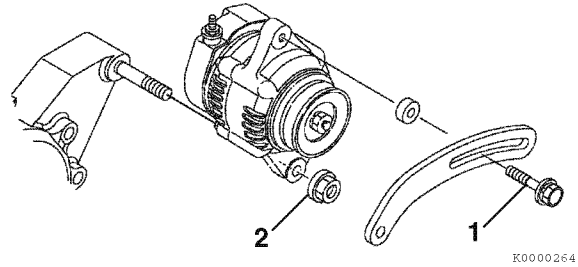

Figure 11-19
1. Position the alternator on the gear case. Loosely reinstall the nut (Figure 11-19, (2)) on the gear case stud and the V-belt adjuster bolt (Figure 11-19, (1)).